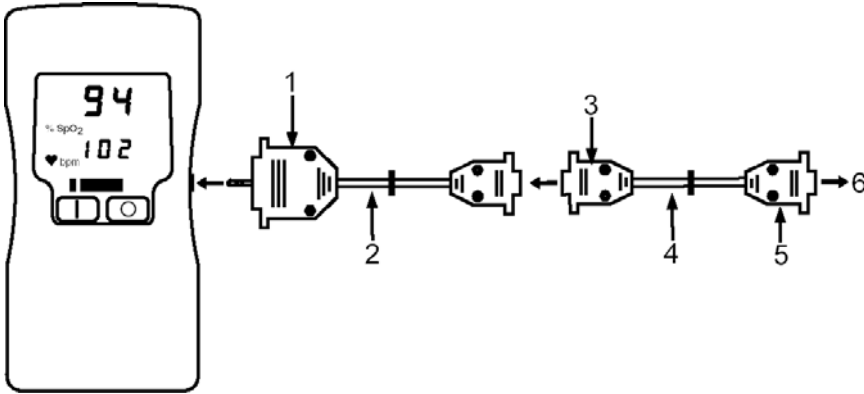

Figure 6.1: Connection from Oximeter to PC
4. Using the PC adapter cable (part #3339), connect the 9-pin connector of the PC adapter cable to the COM port on the PC as shown in figure 6.1.